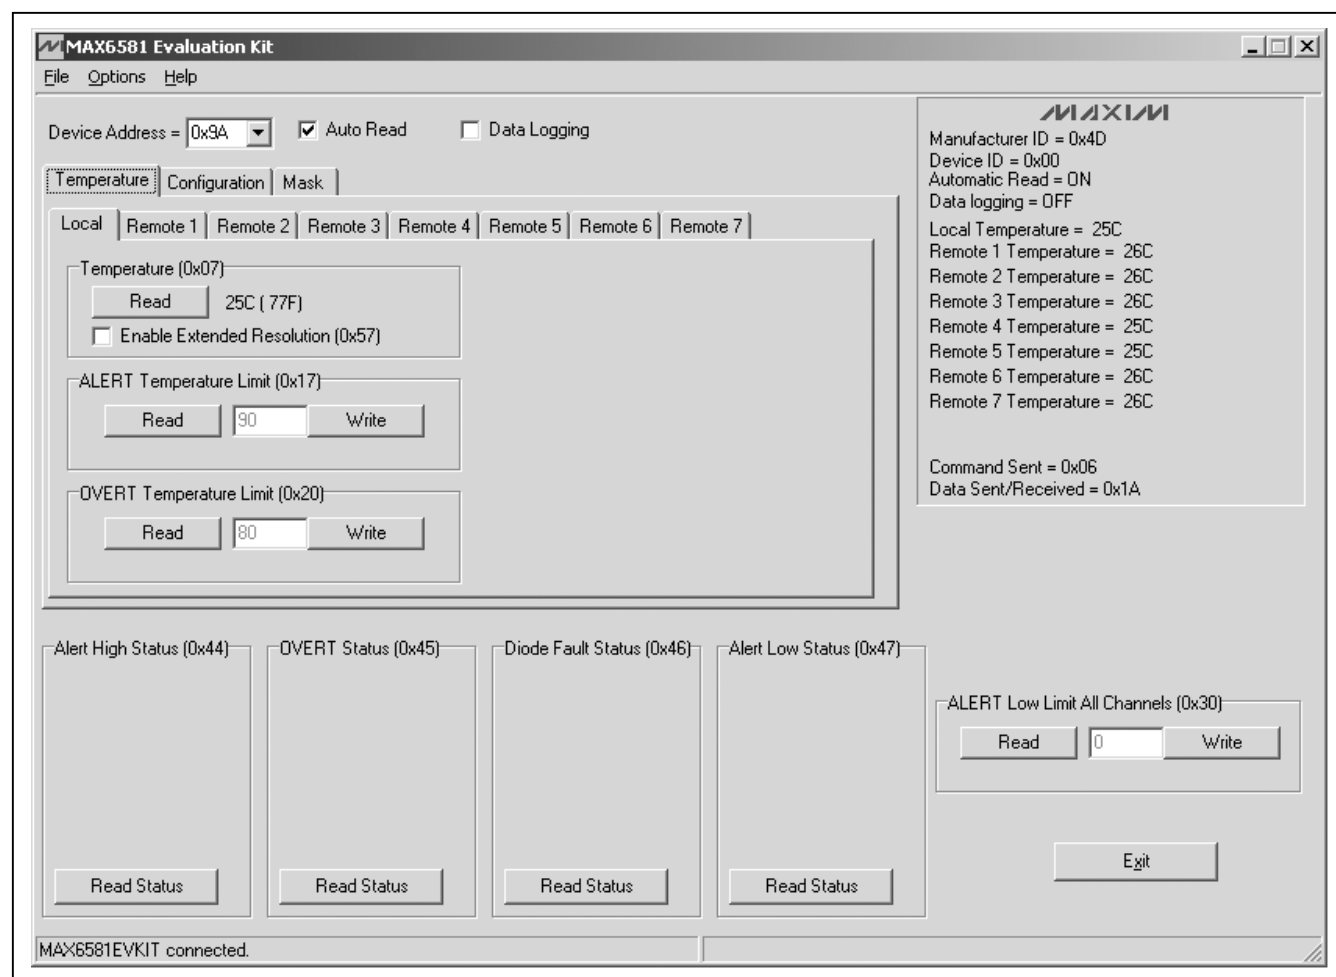

Figure 1. MAX6581 EV Kit Software Main Window (Temperature Tab)
- 6) Start the EV kit software by opening its icon in the **Start | Programs** menu. The EV kit software main window appears, as shown in Figure 1. Observe as the program automatically detects the address of the device and starts the main program.
The remote-diode-measurement channels can provide 11 bits of data (1 LSB = +0.125°C). The 8 most significant bits (MSBs) can be read from the local temperature and remote temperature registers. The remaining 3 bits for remote can be read from the extended temperature register. Extended resolution is enabled by checking the **Enable Extended Resolution (0x57)** checkbox within the **Temperature** tab sheet (Figure 1).
All temperature channels have programmable alert (ALERT) and overtemperature (OVERT) thresholds. Both alert and overtemperature limits can be set in the **ALERT Temperature Limit (0x17)** and **OVERT Temperature Limit (0x20)** group boxes within the **Temperature** tab sheet (Figure 1).